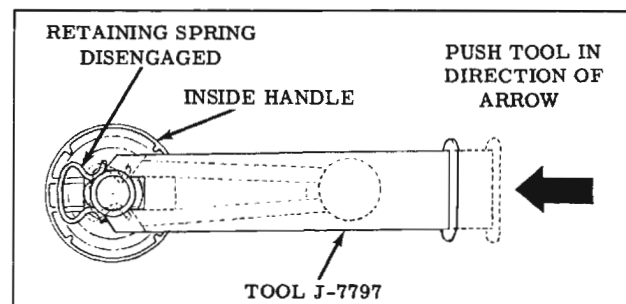

Fig. 16-235 Removing Inside Handle Retaining Spring
3. Push handle retaining spring out of engagement and remove handle and bearing plate from door. (Fig. 16-235)